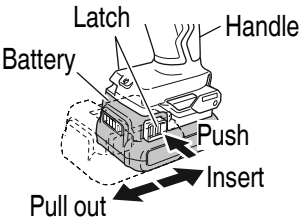

Fig. 4
- Insert the battery while observing its polarities (see Fig. 4).